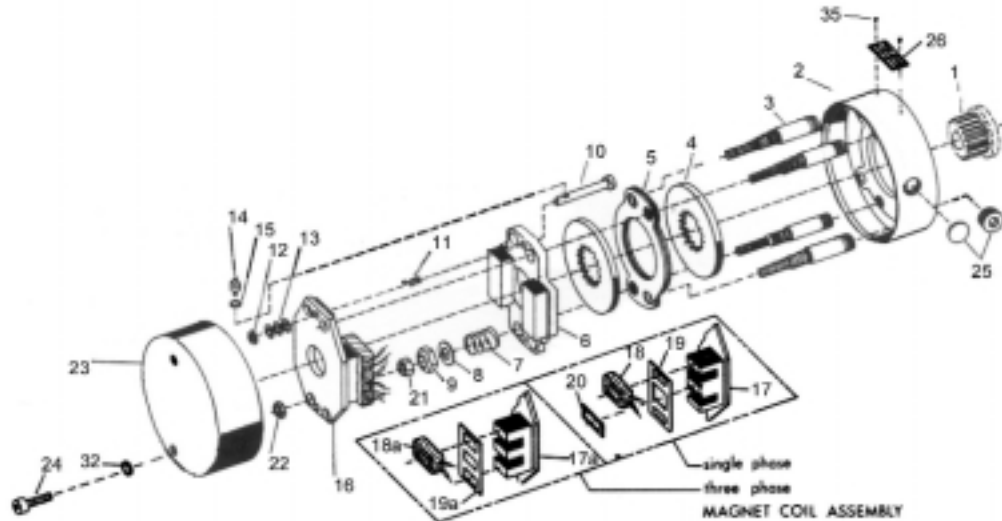

Figure 3. Exploded View of Brake
(See Figures 3, 5 & 6, Tables 1, 2 & 3)
(See Figures 3 & 5)
(See Figures 3 & 5, Table 2)
(See Figure 3)
When assembling a standard manual release mechanism (Figure 3), add only enough shim washers (13) to obtain proper release action. Too many shim washers will prevent automatic reset when electrical power is applied. Too few washers will prevent the motor shaft from turning freely. Replace stop screws (14). Wind each torsion spring (11) approximately 1/4 turn and hook spring loop over pin.
(See Figures 3 & 4)